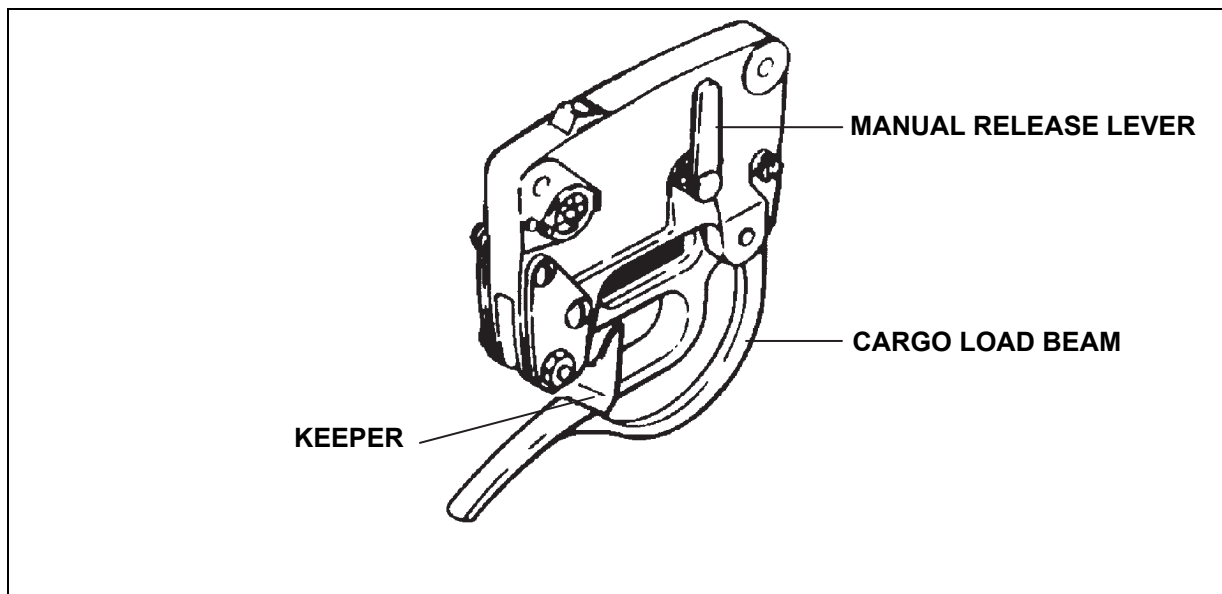

Figure 2-3. UH-1 Cargo Hook
- The UH-1H/P and UH-1N cargo hook maximum capacity is 4,000 pounds and 5,000 pounds, respectively. The cargo hook is suspended in a well in the belly of the aircraft directly below the main rotor system (figure 2-3). The AC6000500 pendant can be used with this cargo hook (USMC, USN).